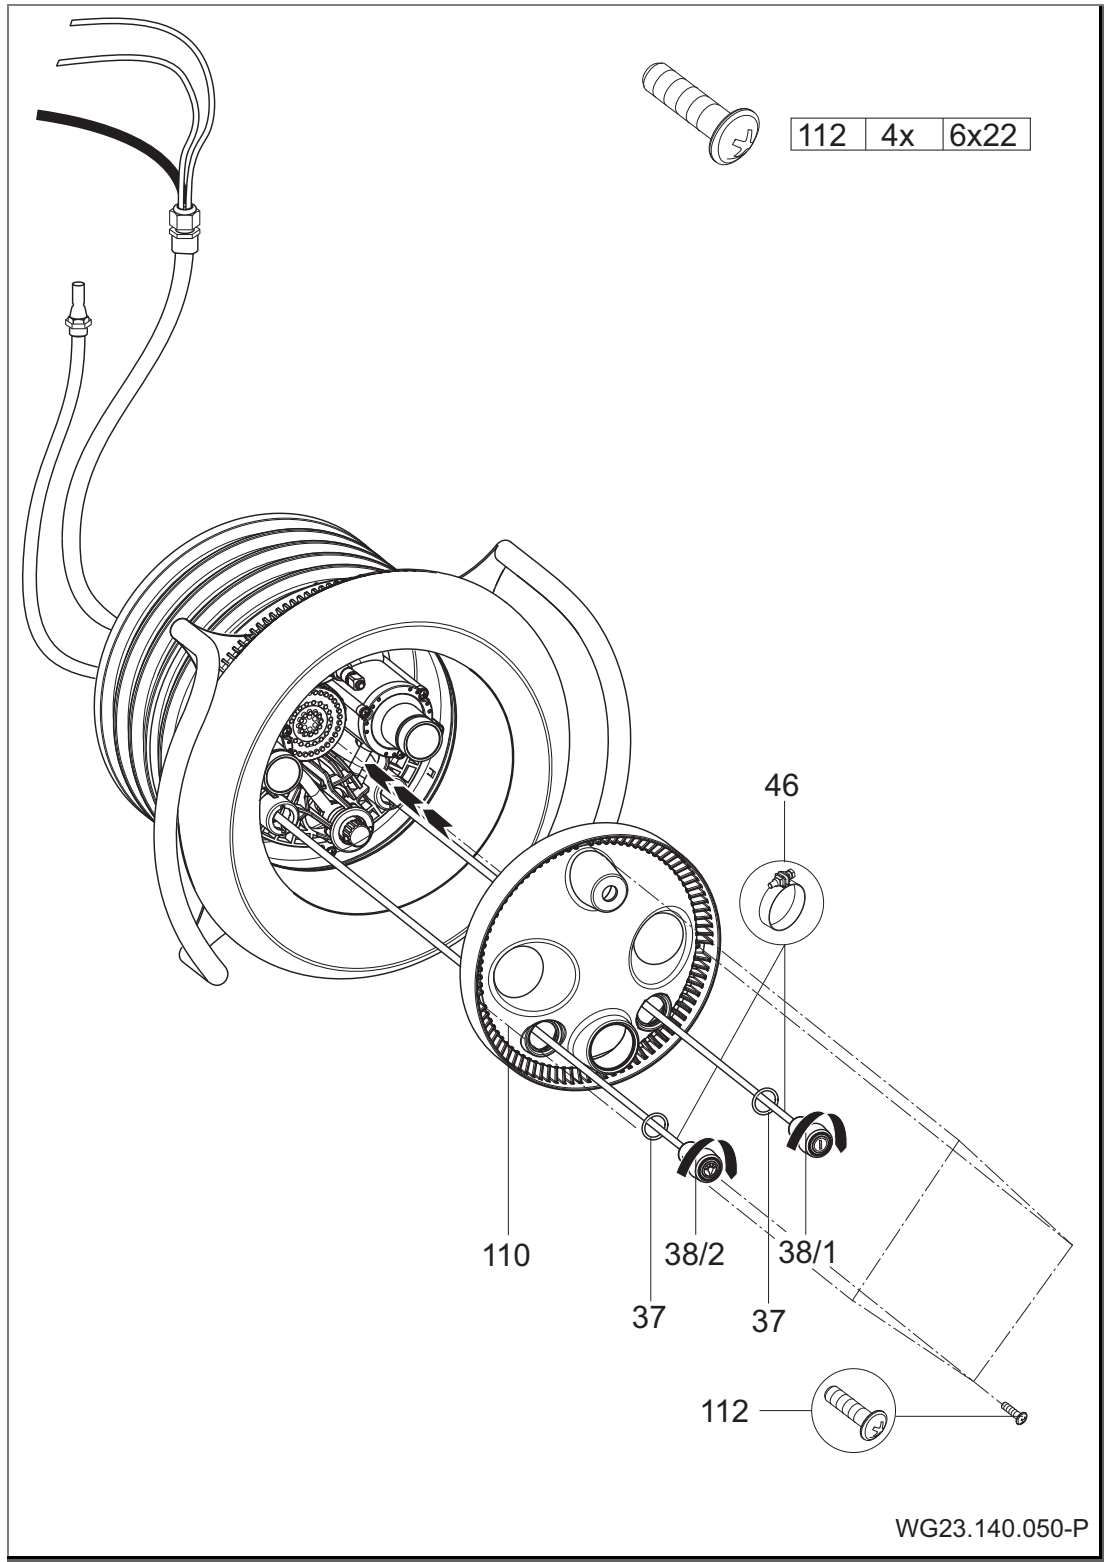

Fig. 18
10. Lead the pneumatic hoses through the lower/outer openings of the light cover (110), light ON/OFF left; pump ON/OFF right. Align the light cover (110) central to the nozzle housing (102.1) and fasten with four tapping screws (112). (Fig. 18)
11. Slide one O-ring (37) onto each pneumatic button (38/1; 38/2). Fasten the pneumatic hoses to the corresponding buttons using the hose clamps (46). Insert the two pneumatic buttons through the light cover (110) in the nozzle housing and lock by turning it clockwise. (Fig. 18)